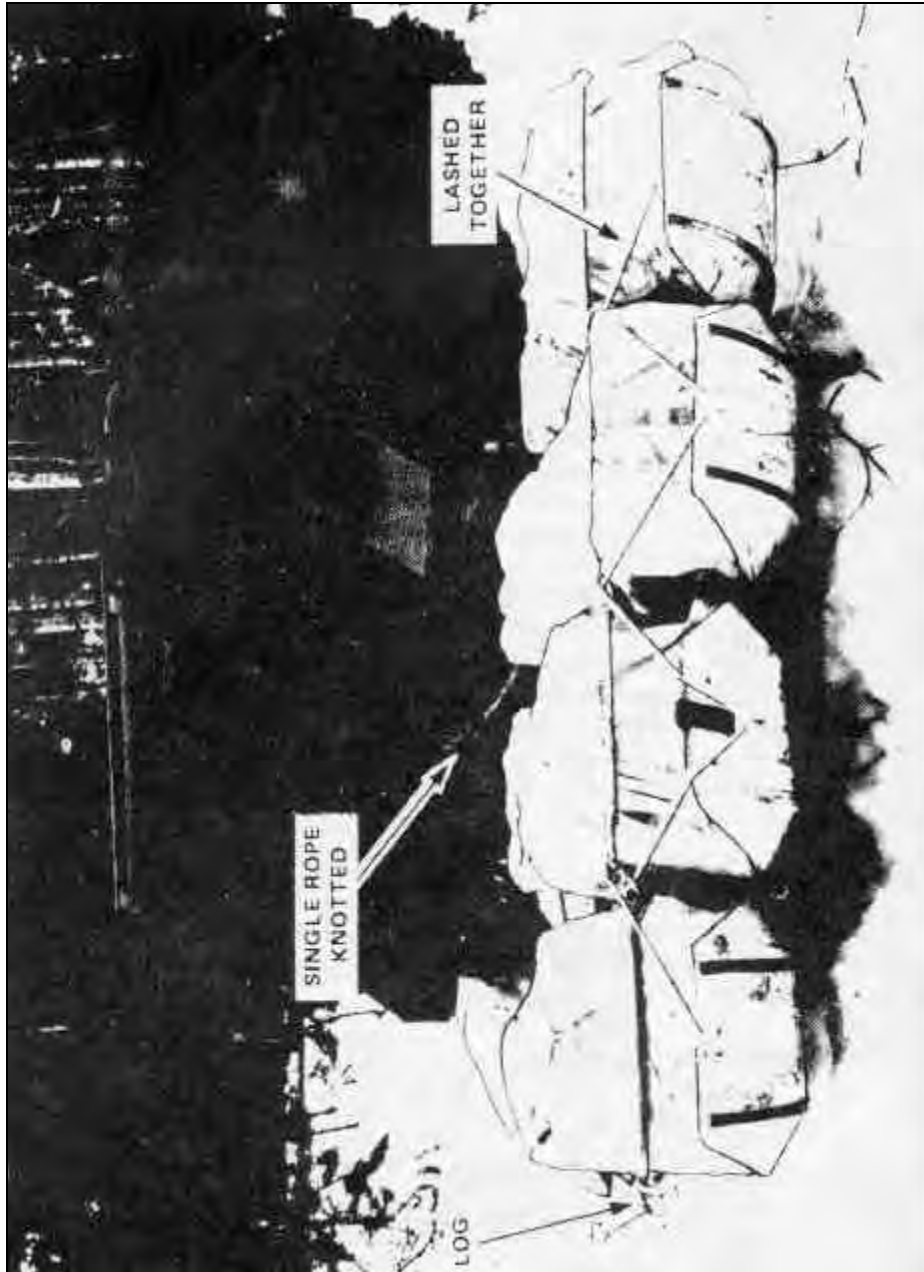

Figure 2-11 The Whippetree Method of Lashing Toboggans Together
- (1) Keeping a cheek on the load and lashing.
- (2) Preventing the toboggan from overtaking the haulers on a down grade.
- (3) Pushing in hard going.
- (4) Preventing the toboggan from tipping when traversing a steep slope.
- (5) Controlling the toboggan on rough snow or ice.
6. Towing by Vehicle - Whippetree Method (see figure 2-11). To prevent toboggans from upsetting when being towed behind a vehicle the following is a suggested method of lashing the toboggan: